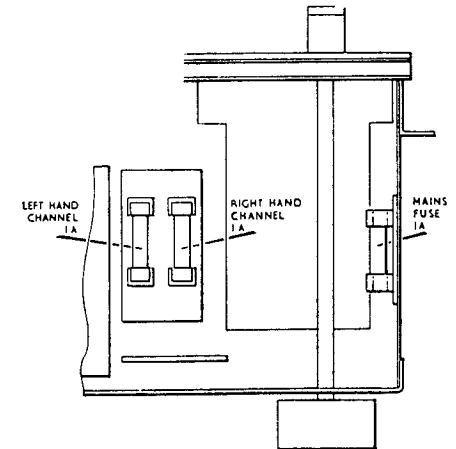

FIG. 3
All Dynatron SRX26 series chassis are fitted with three fuses. One for mains voltage circuits and one for each stereo amplifier channel (see Fig. 3).
The anti-skating device should be set as detailed on pages 9, 10 and 11 of the manual, ie the 4 g weight should hang over the 3rd notch of the guide rod (item 2, Fig. 3, page 9 of manual).